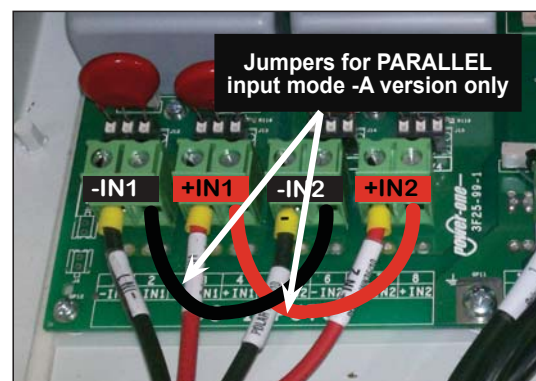

Figure 15
- Referring to Figure 15, parallel the two MPPT inputs of -IN1 and -IN2 and +IN1 and +IN2 in the inverter, using the two #10 AWG jumper wires provided, 1 black and 1 red. Connect the input as shown in Figure 15 and tighten with 13in-lbs torque.